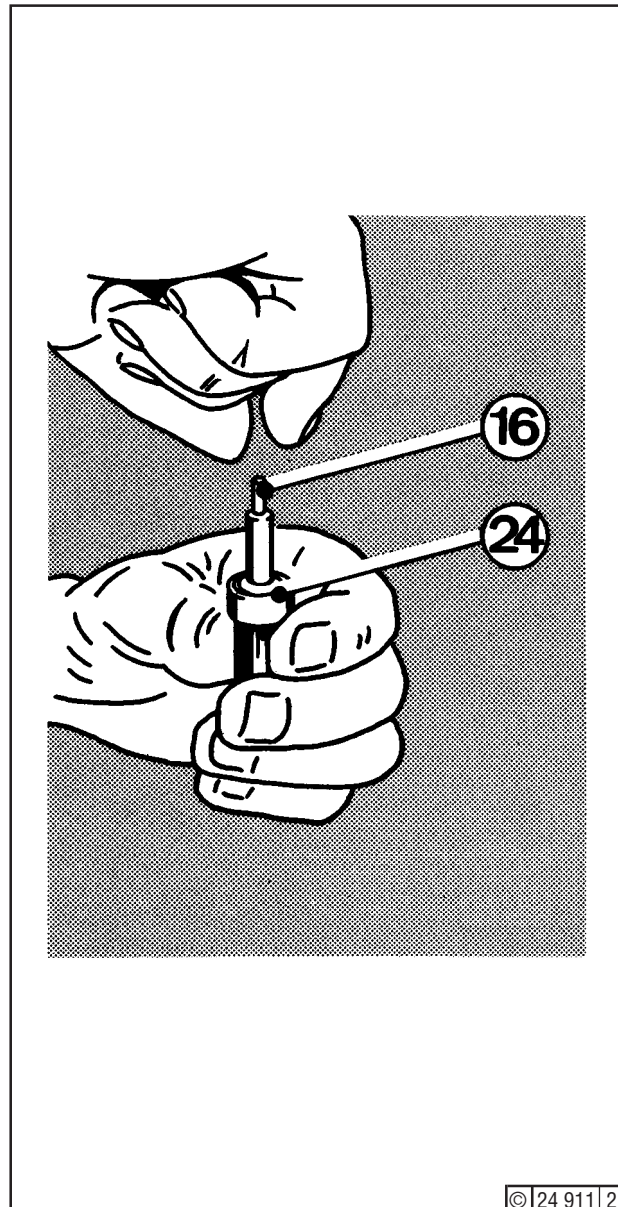

Fig. 2
Should the fuel pressure fall off, or if a red indicator appears in the window of the pressure differential monitor (30) - Fig. 2 - (if provided), change over to the other filter chamber and clean the soiled one immediately. When running on distillate fuel, a paper filter is used; when running on MDF blend or heavy fuel, a strainer filter is used.